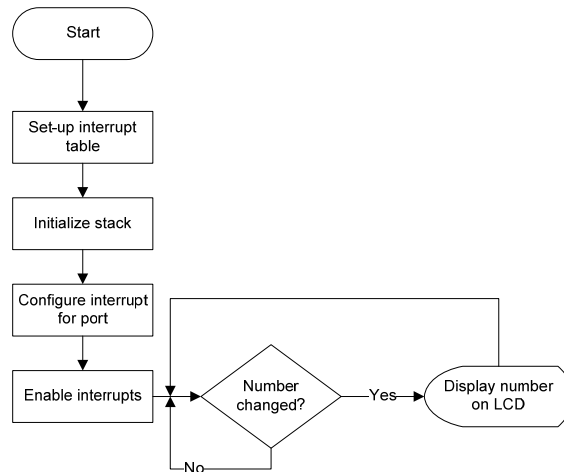

Figure 2: Flowchart for the main loop in the key-LCD incrementing program.
6. Modify further the main to make it a program that every time the number is incremented, its value gets displayed on the LCD. Use the flowchart in Figure 2 as a guide. Note: Use the LCD subroutines you created in experiment 1.